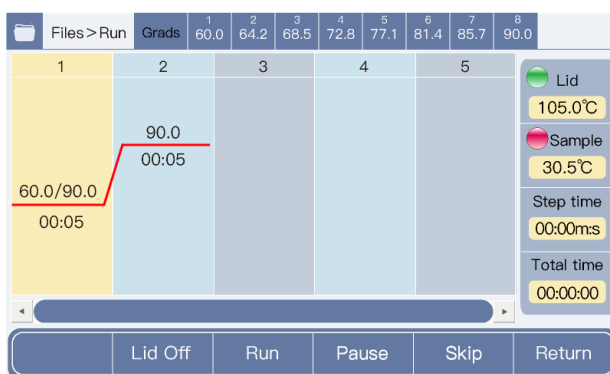

Fig 8. Screen of the running program
1. In the File Library screen, select the reaction program, and then click <Run> to execute the program (Figure 8).